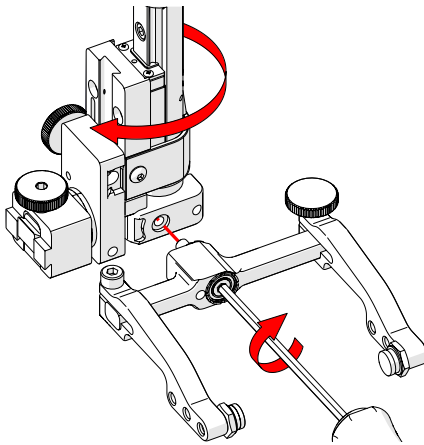

Fig. 79 - Screw yoke to opposite side
6. Mount the yoke to the opposite side of the base using the supplied 3 mm hex driver (Fig. 79).